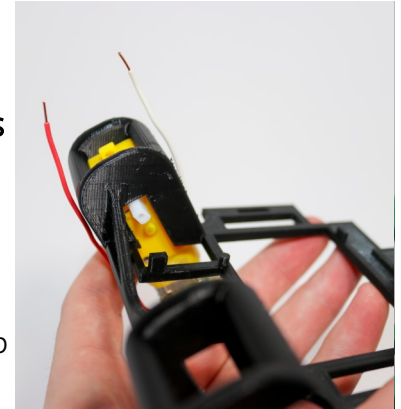

Figure 1: bump facing inward
- Slide the motors into the chassis so that the side with the bump are facing inwards and the top of the motor is touching the inside of the rounded frame (figure 1).